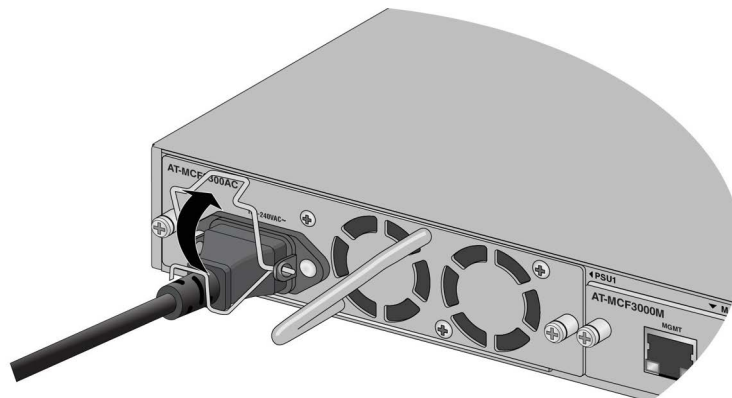

Figure 71. Raising the Power Cord Retaining Clip on the MCF3300AC Power Supply
2. Raise the retaining clip on the power cord. Refer to Figure 71.